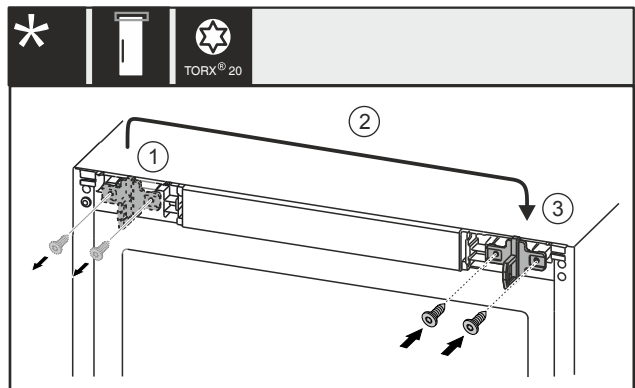

Fig. 26 With electric lock*
- Use screwdriver to unscrew the screws Fig. 26 (1)*.
- Move the locking hook Fig. 26 (2) to the opposite side.*
- Use screwdriver to place the screws Fig. 26 (3) and tighten them.*